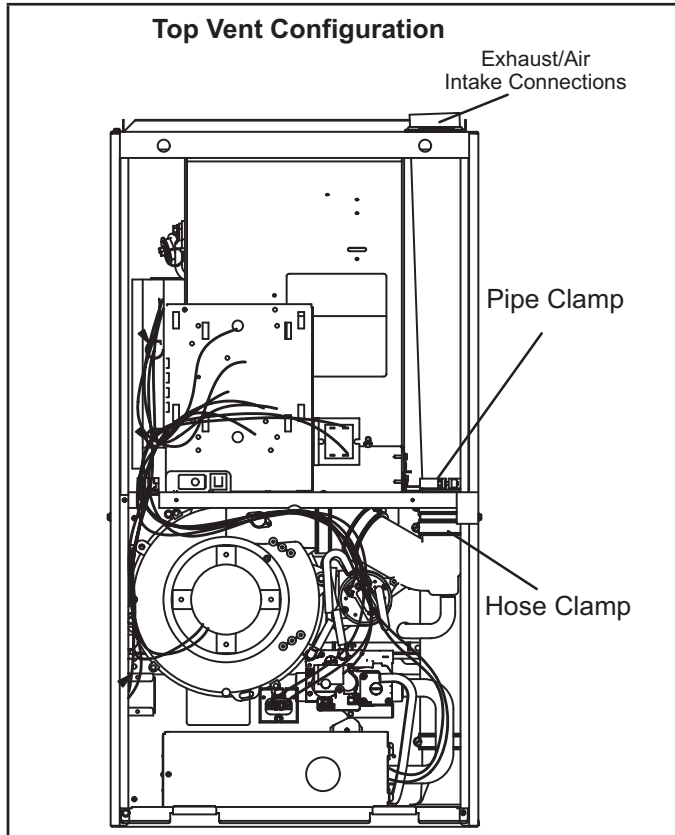

FIGURE 19
The EL297DFVK is shipped with vent exhaust / air intake connection at the top cap. See FIGURE 19. Using parts provided, the furnace may be field modified to have these connections on the right side of the furnace cabinet. See FIGURE 22 and follow the steps below. For left side venting order kit 87W73.
- 2 - Loosen hose clamps which attach rubber fittings to the white PVC pipes inside the vestibule area. See FIGURE 19.
- 3 - Loosen the clamp which secures the pipes at the blower deck. See FIGURE 19.